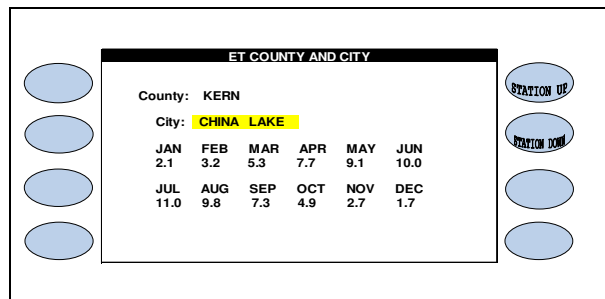

Figure 12
16. Press the **PLUS** or **MINUS** keys to change the setting (Figure 12).